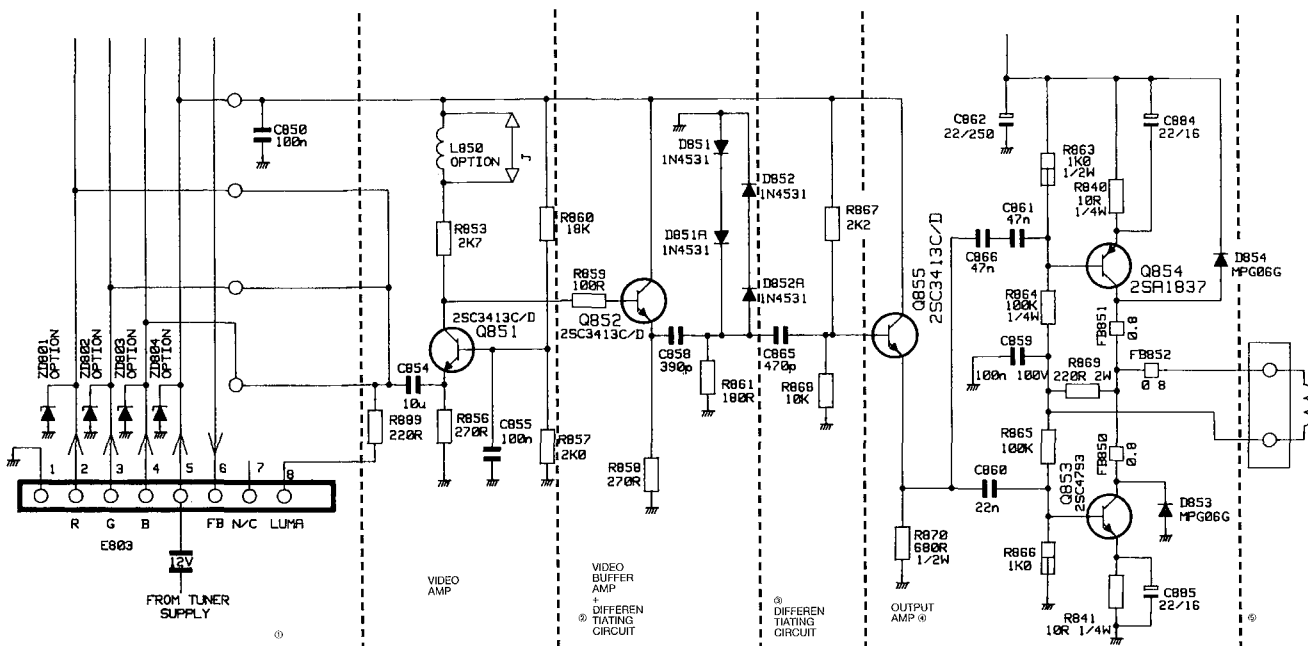

Fig. 1
VELOCITY MODULATION CIRCUIT (Fig. 1, 2, 3)
applying the compensation signal (created in the brightness change area by differentiating the video signal) to the auxiliary deflection coil provided at the neck of the CRT. Fig. 1 shows the velocity modulation circuit.
In Fig. 1, ① indicates the video signal input terminal. The input video signal having gentle leading and trailing edges in Fig. 2 (a) is applied to this terminal. This input signal (a) then passes the buffer circuit, is differentiated by the first differentiating circuit ②, and is changed to the primary differentiated signal in Fig. 2 (b) in its brightness change areas, i.e. on its leading and trailing edges. This signal (b) includes the brightness change area of the video signal (a'), but is indicated as a signal approximate to a triangular wave because it cannot be changed to a completely differentiated signal due to the influences of the time constant of the differentiating circuit ③, floating capacity of each area, etc.